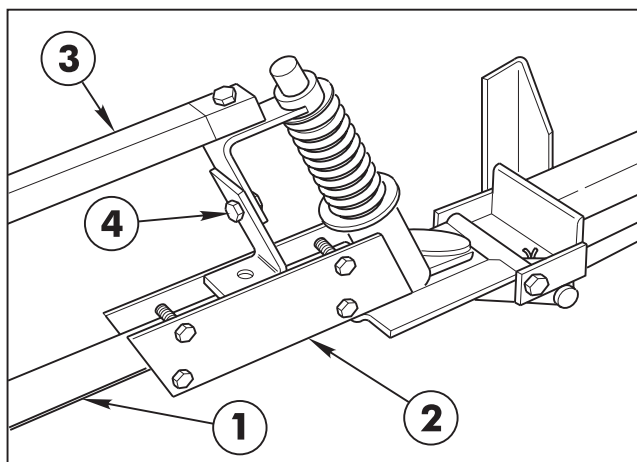
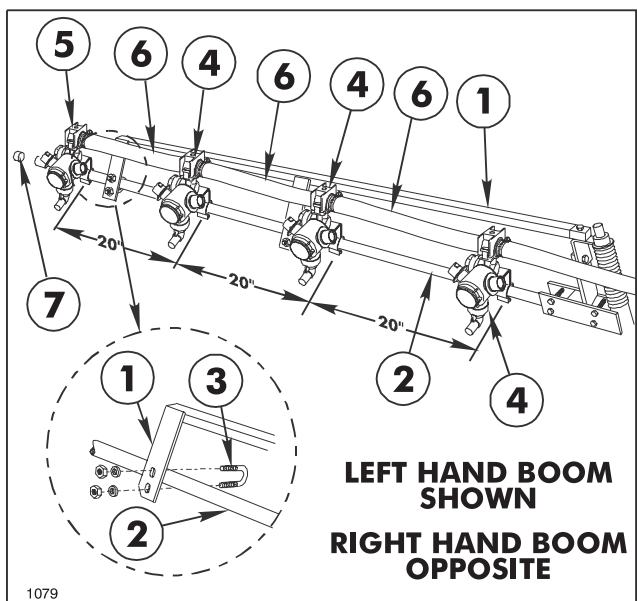

FIG. 14
FIG. 15
4. Insert the plugged end of an Extension Boom Pipe into the Pivot Assembly and secure with (4) 1/4" x 1-1/4" hex hd. cap screws and locknuts. Repeat on the opposite side to assemble the other extension boom. See FIG. 14.
5. Attach the LH Boom Support Assembly to the Pivot Assembly at LH end of Boom Main Frame, using a 5/16"x 1-1/2" screw and locknut (FIG. 14 & FIG. 15).
6. Secure the two plates of Boom Support Assembly to the Extension Boom Pipe, using (2) 1/4" U-bolts, (4) flat washers, and (4) locknuts (FIG. 15).
9. Attach three Double Barb Turret assemblies and one Single Barb Turret assembly with Nozzle Body Clamps on each extension boom pipe as shown in FIG. 15.
10. Level Nozzles and space 20" apart. Connect the Turret Body assemblies with the 3/4" x 19" jumper hoses. Secure with hose clamps. See FIG. 15.